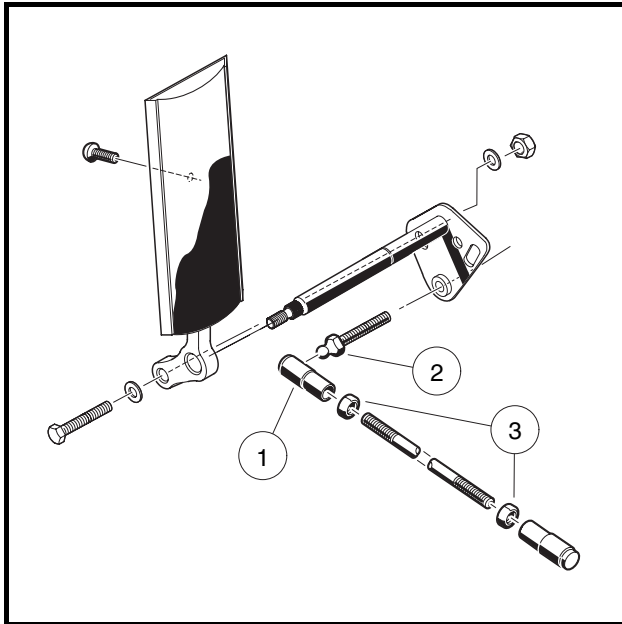
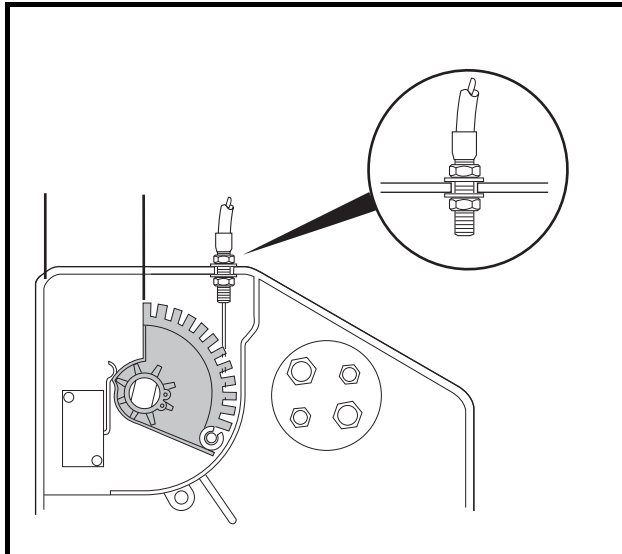
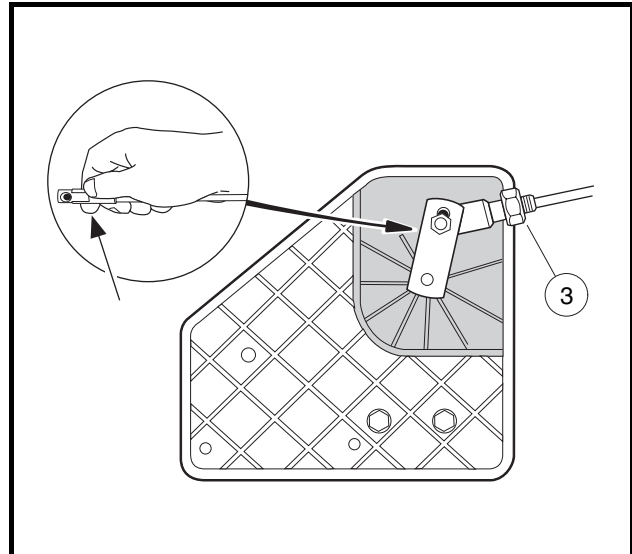

Figure 16-6 Accelerator Rod
Figure 16-7 Cam Position – Parallel with Box (Top View)
Figure 16-8 Accelerator Rod – Pull Spring Release to Attach (Bottom View)
2. Remove the accelerator rod by disconnecting the ball joint (1) from the ball stud (2) on the accelerator pedal (Figure 16-6, Page 16-7) and from the bell crank at the electrical box (Figure 16-8, Page 16-8).
2. Install the ball joint on the ball stud at the accelerator pedal (Figure 16-6, Page 16-7).
4. Remove the electrical box screw and cover (Figure 16-7, Page 16-8).
5. Adjust length of accelerator rod. With the ball joint jam nuts (3) loose (Figure 16-6, Page 16-7), adjust the length of the accelerator rod so the indicated cam edge is parallel with the electrical component box as shown (Figure 16-7, Page 16-8). **See following CAUTION.**
6. Install the accelerator rod on the bell crank ball joint on the electrical component box (Figure 16-8, Page 16-8). **See following CAUTION and NOTE.**
NOTE: Use the inside hole location, or hole closest to the bell crank shaft as shown (**Figure 16-8, Page 16-8**).
2. Remove the electrical box screw and cover and loosen the cable housing retaining nuts (**Figure 16-7, Page 16-8**).
2. Insert the cable housing into the mounting slot in the wall of the electrical box, with approximately the same number of threads visible between the jam nuts as are visible from the nut inside the box to the end of the cable housing (**Figure 16-7, Page 16-8**). Tighten the nuts finger-tight.
6. With the tachometer connected, and the engine at normal operating temperature, check high speed RPM. With the accelerator pedal pressed to the floor, the tachometer should read 3300 ±30 RPM (800/810) or 2600 ±30 RPM (850).
7. To reduce RPM, loosen the accelerator cable retaining nut on the outside of the electrical box wall and tighten the retaining nut on the inside of the wall until the specified RPM is reached (**Figure 16-7, Page 16-8**). To increase RPM, loosen the cable retaining nut inside the electrical box and tighten the nut outside the box until the specified RPM is reached.